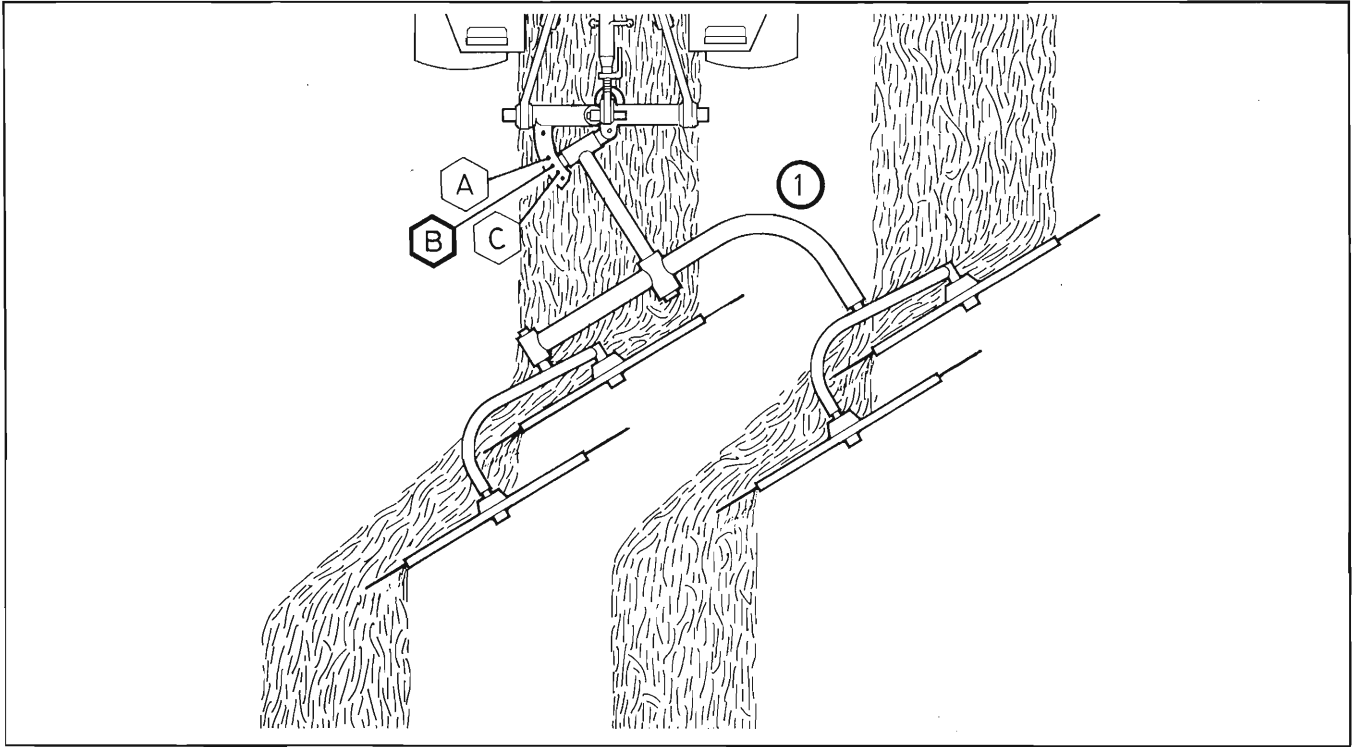

Fig. 32
In the turning operation, the Finger Wheels are set in two pairs (Fig. 32) so that (2) swaths can be turned at the same time. This process is normally used right after the crop has been spread. The width adjustment is normally made to hole position (B) (Fig. 32). The Finger Wheel depth